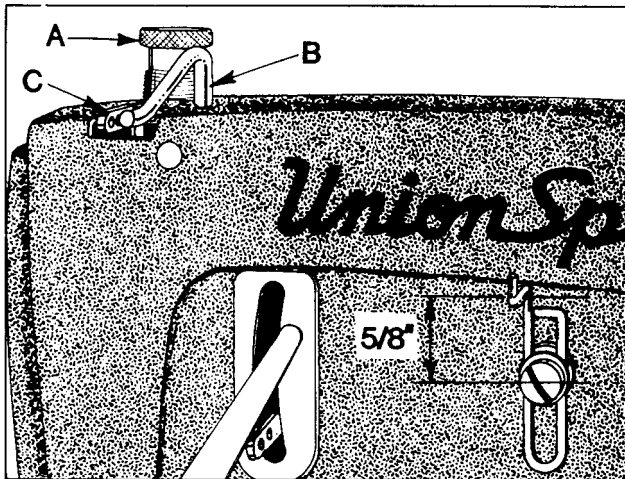

Fig. 14
Regulate presser spring regulating screw (A, Fig. 14) so that it exerts only enough pressure on the presser foot to feed the work uniformly when a slight tension is placed on the fabric. Turning it clockwise increases the pressure counterclockwise acts the reverse.
Set needle thread take-up wire (B, Fig. 14), so that its upper surface is even with the top of the holes in needle bar thread eyelet (C) when needle bar has completed its downward stroke. Lower this setting for a smaller needle thread loop, or raise it for a larger loop. Set needle thread frame eyelet (D) so that the eyelet hole is 5/8 inch (15.9mm) above the attaching screw.